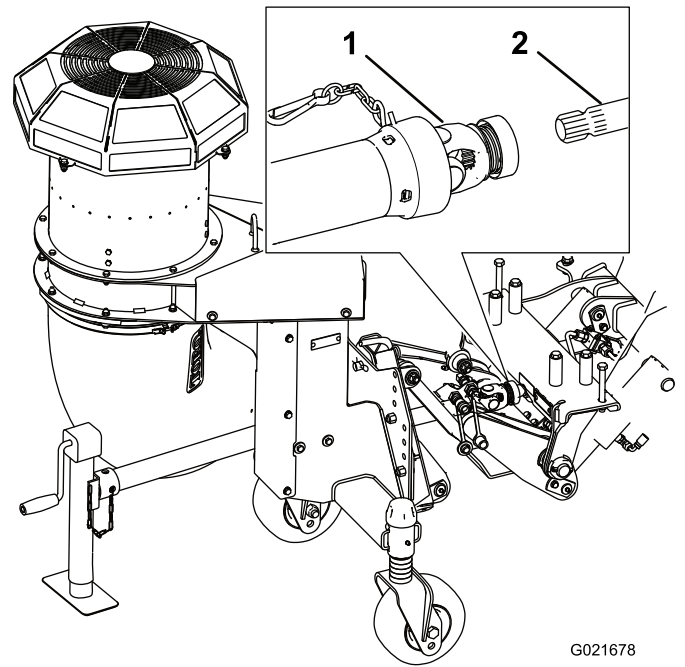

Figure 13
5. Install the drive shaft to the quick attach frame by sliding the quick coupler onto the shaft (Figure 13).
6. Secure the safety chain to the quick attach frame (Figure 13).